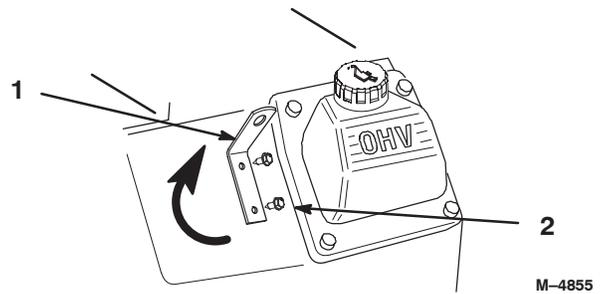

Figure 94
1. Locate on engine the lift hook in figure 94.